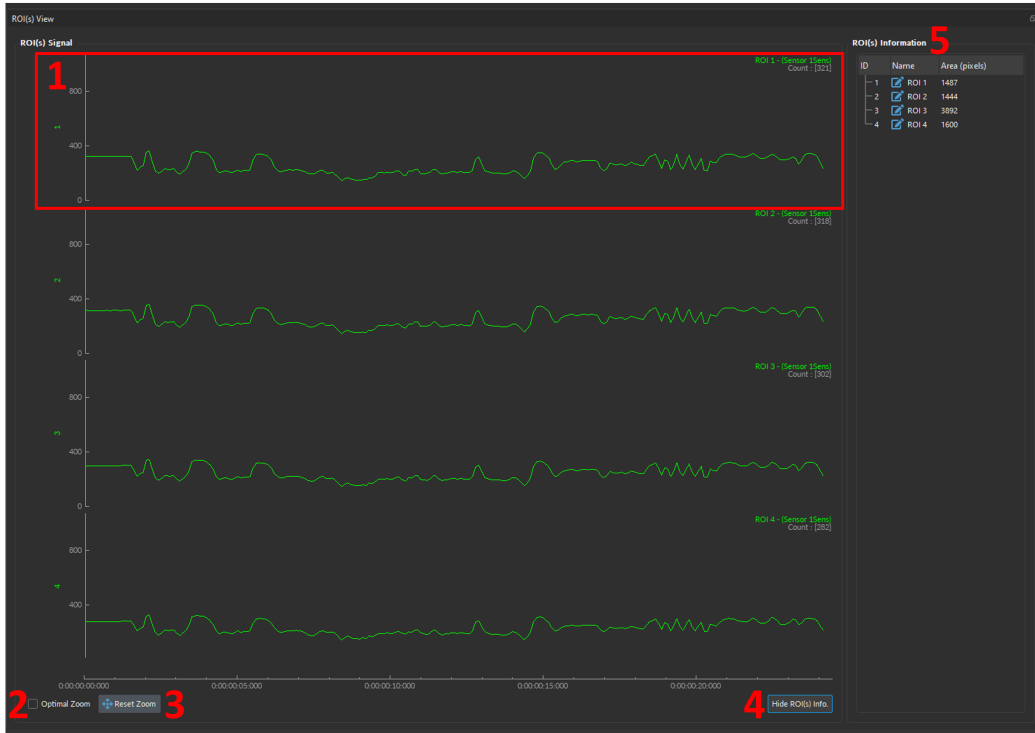

Figure 8.39: ROI(s) View
1. The **ROI(s) signal graph** (Fig. 8.39, 1) displays the raw signal trace for each ROI(s).
2. The **Optimal Zoom** checkbox (Fig. 8.39, 2) automatically adjusts the graph range based on the values of the data collected. Smaller values will lead to greater zoom, and vice versa.
3. The **Reset Zoom** button (Fig. 8.39, 3) readjusts the graph zoom to the value specified in the zoom range text-box.
4. The **Show ROI(s) Info.** button (Fig. 8.39, 4) opens or closes the **ROI(s) Information** Tab in Fig. 8.39, 5.
5. **ROI(s) Information** Tab (Fig. 8.39, 5) displays a table with ROI basic data, including: